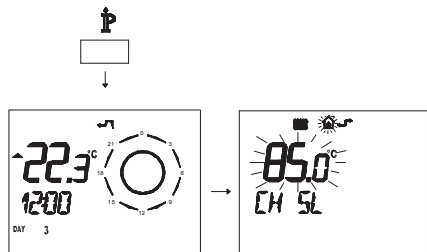

Fig. 8.18
- Press button **IP** for more than 3 seconds to enter in **INFO** mode (Fig. 8.18).